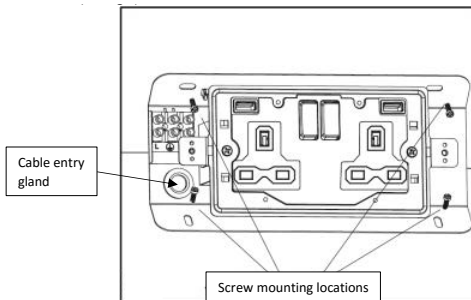

Fig 2
- Mark the location of the fixing holes and drill the holes ensuring not to infringe with any joists, gas/water pipes or electrical cables (see Fig 2)
- Feed through mains cable via the cable entry gland (see Fig 2)